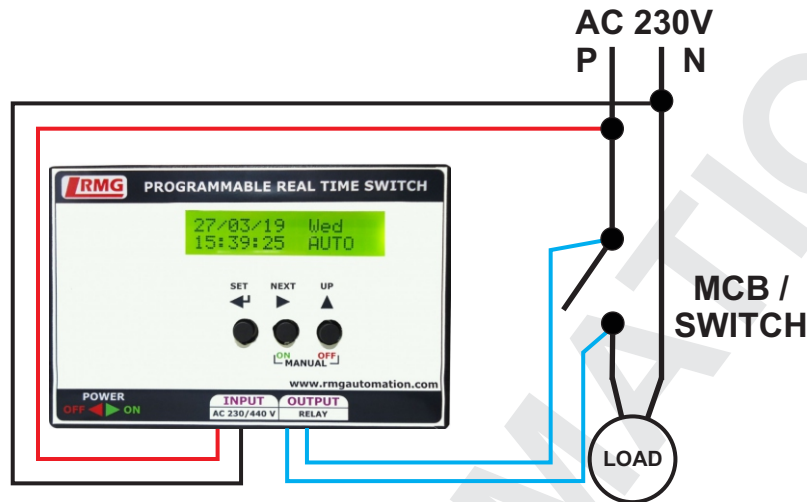

Figure1: POWER & LOAD CONNECTION
Step 2: Connect 230V AC supply to red and black wire of timer refer figure 1.
Step 3: Connect blue pair wire to the switch/MCB of the load in parallel as shown in figure 1.